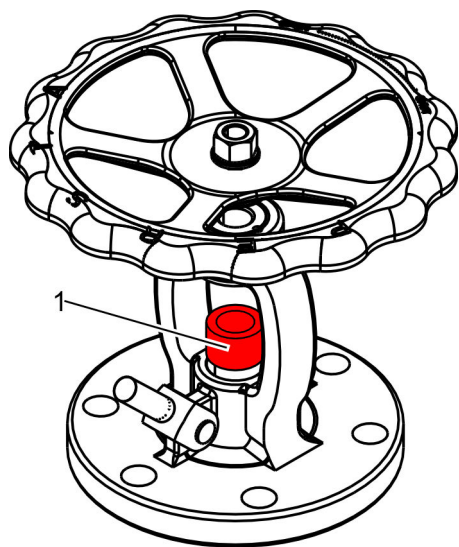

Fig. 32: Removing stuffing box elements
- 21. ▶ Use a packing extractor to remove the stuffing box elements (Fig. 32/1).